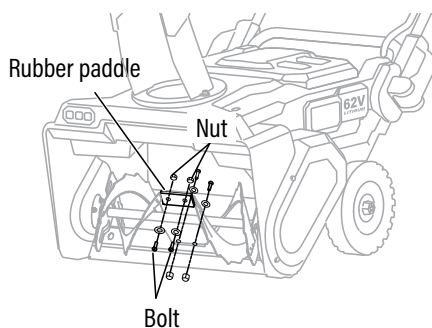

Fig. 12
1. Rotate the auger to the appropriate position for easy access to the rubber paddle. (Fig. 12)